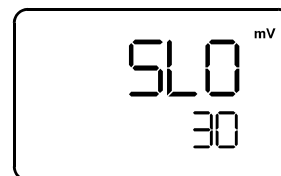

Figure 6: Slope value in mV
**NOTE:** If you are performing a 2-point ion calibration, press **CAL/MEAS** key. “SLO” appears in the upper display with the [mV] indicator and the number in the lower display is the electrode slope in mV (see Figure 6). You are ready to take ion measurements. If the slope is outside the acceptable limits or if incorrect standards have been used the upper display will show “Er3”.
- Allow meter to stabilize in the next calibration standard. Wait for the [READY] indicator to appear before you press the **ENTER** key to confirm the third calibration point. The upper display flashes for a few seconds then “**SLO**” appears in the upper display with the mV indicator, the number in the lower display is the average electrode slope in mV (see Figure 6). After a few seconds the meter reverts to the measurement mode. You are now ready to take ion measurement.